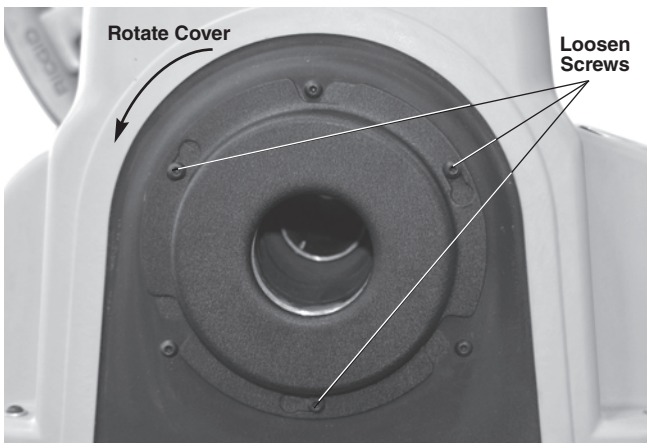

Figure 25A – Removing Rear Cover
- Make sure that the REV/OFF/FOR (2/0/1) switch is in the OFF (0) position and the cord is unplugged from the outlet.
- Remove rear cover. Loosen cover screws and rotate cover to remove (Figure 25A).